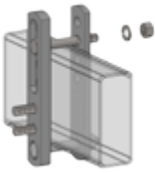

Figure 10
2. Insert the second  $\frac{1}{2}$ " x  $3 \frac{1}{2}$ " bolt through the open hole closest to the top of the trailer frame. (Figure 10)